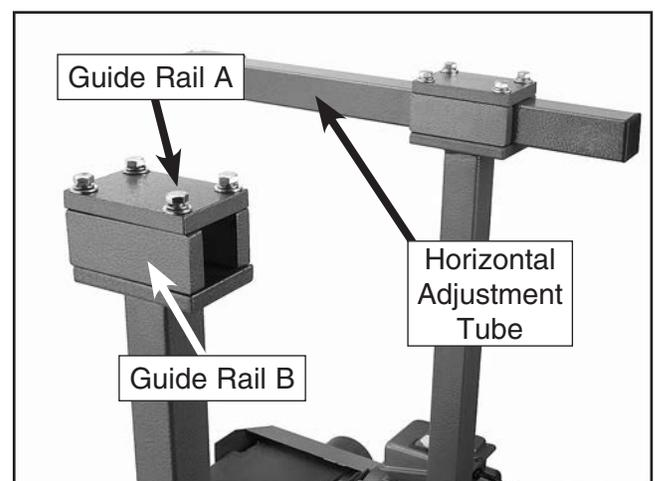

Figure 9. Guide rail installation.
8. Slide the horizontal adjustment tubes through the guide rails as shown in **Figure 9**, with the threaded holes towards the outside of the machine, and tighten the hex bolts.